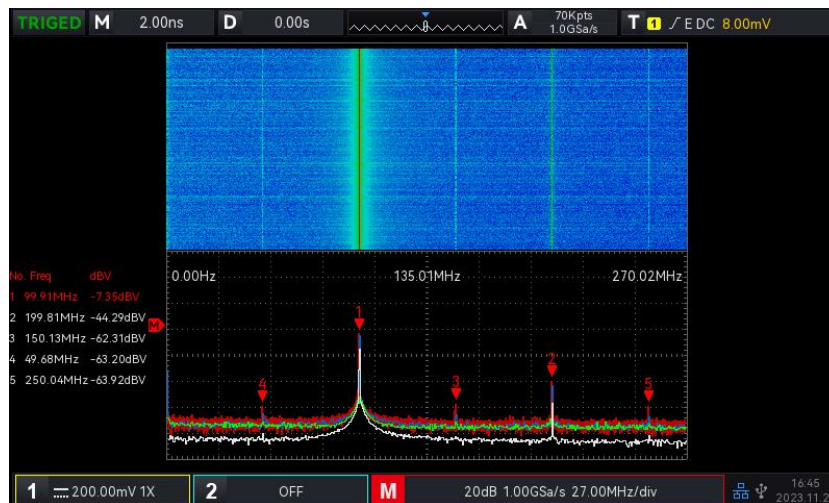

Figure 17-3
- e. Waterfall curve 2: Spectrum and waterfall curve split to two windows to display. Waterfall curve shows the time changing of dB value in spectrum. It has “record” function. Waterfall curve can only select when enhance FFT is opened. The maximum record 200 spectrum which corresponds to waterfall curve, as shown in Figure 17-3.